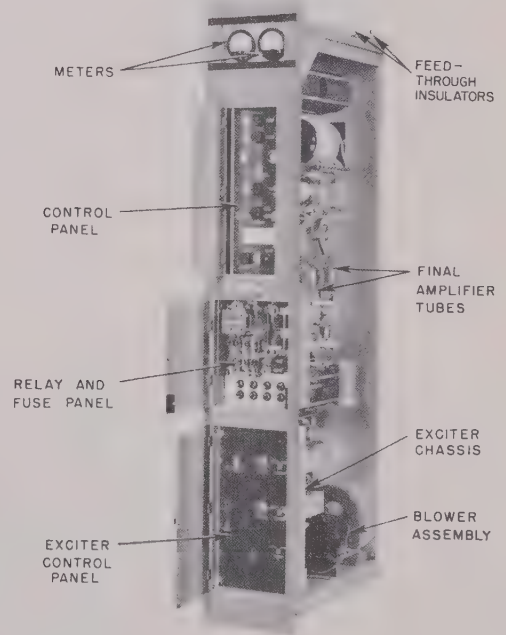
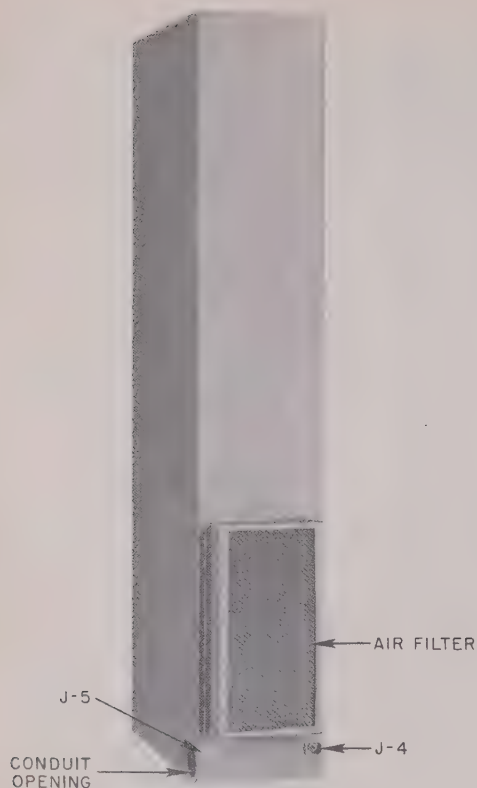
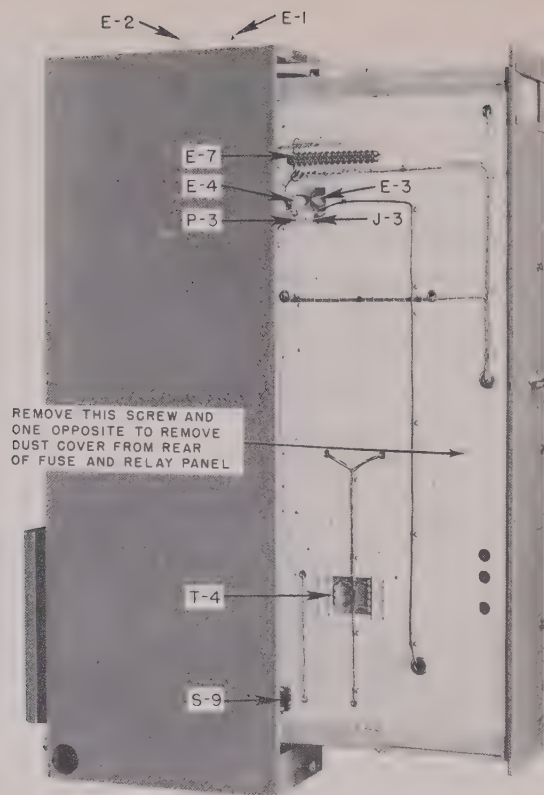
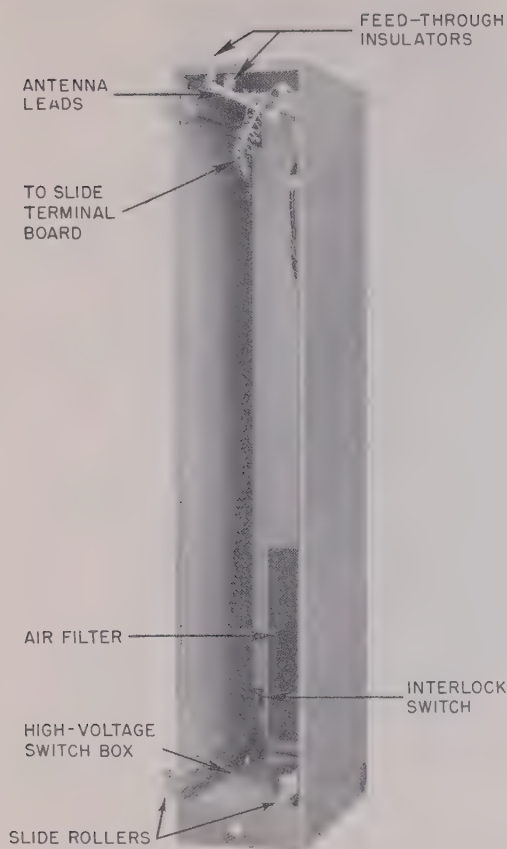

Figure 6. Radio Transmitter MODEL 96D, right side view of slide, control panel doors open
Figure 7. Radio Transmitter MODEL 96D, rear view
Figure 8. Radio Transmitter MODEL 96D, left side view with slide out
Figure 9. Radio Transmitter MODEL 96D,
a. General. Radio Transmitter Model 96D is a nine-tube, crystal-controlled or external excited, amplifier-doubler, power-amplifier transmitter designed to transmit c-w, mcw, a-m (amplitude-modulated) or carrier-shift teletypewriter signals within the frequency range of 2.0 to 26.0 mc. The transmitter is housed in a built-up metal cabinet. Figure 6 is a view of the transmitter slide with the control panel doors open, and figure 7 is a rear view of the transmitter. Figure 8 is a left-side view of the transmitter with the slide pulled out to expose the wiring of the unit. The interior of the cabinet is shown in figure 9.
d. Slide. The slide has all of the transmitter circuits and relay equipment mounted upon it. The only component not mounted on the slide is the h-v (high-voltage) switch, which is mounted in the base of the cabinet. The construction of the slide is shown in figures 6 and 8. To move the slide forward, turn the slide lock handle (fig. 3) at the front of the transmitter a quarter turn to the left to unlatch the slide.
e. Exciter Unit. The exciter unit is mounted on the slide as shown in figure 6. The exciter unit consists of the crystal-controlled oscillator, the first and second amplifiers, all but the plate circuit of the third amplifier, the electronic keying circuit, the electronic channel control circuit, and the bias isolator circuit.
f. Final Amplifier and Antenna Loading Network. The components of the final amplifier and the antenna loading network are mounted on the top half of the slide as shown in figure 6. Antenna feed connections are made to two feed-through insulators located at the top of the slide and then by means of two flexible straps to feed-through insulators in the top of the cabinet, as shown in figure 9.
h. Blower Assembly. The blower assembly, mounted at the bottom of the slide (fig. 6), consists of the motor, blower, and blower housing. Air is drawn in from the outside of the cabinet through a filter (fig. 7) and forced through the slide by the blower assembly. This provides the necessary cooling of the equipment during operation.
i. High-Voltage Switch. The high-voltage switch is located at the bottom of the transmitter cabinet (fig. 9). A handle, located at the bottom front of the cabinet (fig. 3), operates the switch. When the handle is out, the switch is open and all d-c voltages are removed from the transmitter. The interlock circuit within the transmitter is bypassed when the switch is fully opened, allowing the operation of other equipment in the station.